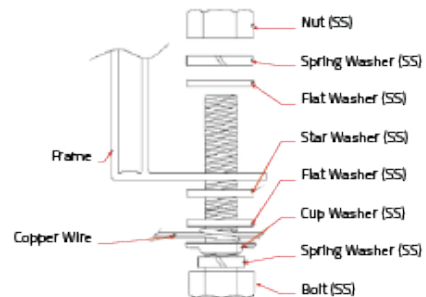

Figure 18: Schematic diagram for installation of grounding wire fitting bolt
- Grounding cables and bolts are used in installation: grounding bolts are recommended to be stainless steel M4 bolts and used on the designated grounding holes. Insert the stainless steel bolts first through the spring washer, cup washer, flat washer and star washer, then through the ground hole, flat washer and spring washer of the frame, and finally tighten them with nuts using 4-4.5Nm of torque. The installation diagram is shown in Figure 18. Ensure the star washer punctures the anodic oxide layer on the surface of the aluminium alloy frame.